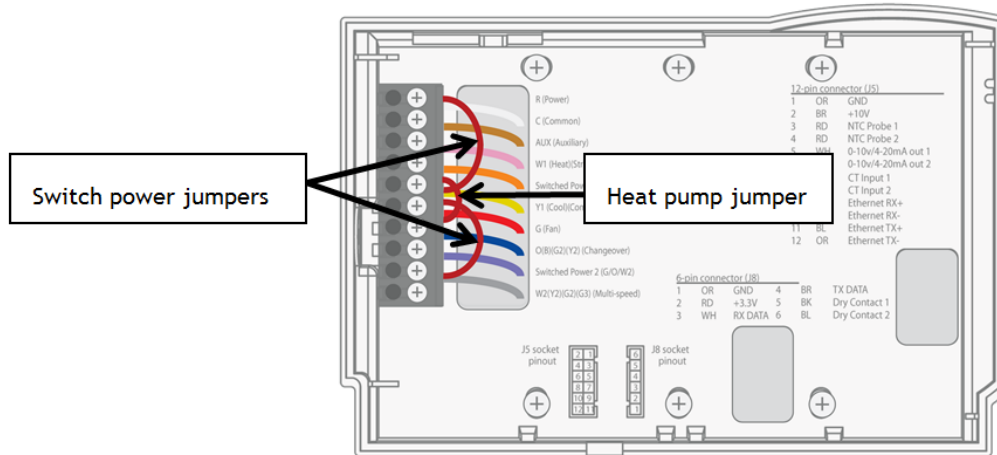

Figure 15: EcoSource Backplate with Appropriate Jumpers
- Step 16 Low voltage only: Ensure backplate has appropriate jumpers between R, SW1 and SW2. If installing on a heat pump, ensure there is a jumper between Y1 and W1. See Figure 15.
- Step 27 Low voltage only: ensure backplate has appropriate jumpers between R, SW1 and SW2. If installing on a heat pump, ensure there is a jumper between Y1 and W1. See Figure 15 on page 16.
- Step 38 Low voltage only: Ensure backplate has appropriate jumpers between R, SW1 and SW2. If installing on a heat pump, ensure there is a jumper between Y1 and W1. See Figure 15 on page 16.